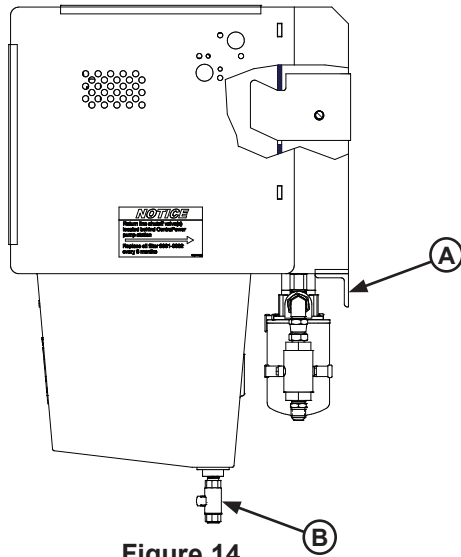

Figure 14
8. Using the CentraPower pump station as a guide, drill two holes and install fasteners for the bottom mount (A). See Figure 14.
9. Remove shipping plug and install drain valve (B) on to bottom of the reservoir as shown in Figure 14.